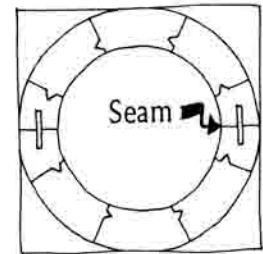

Figure 8-4
3. Caulk the area where the shaft and base meet. Then position halves of shaft on the base so that seams are oriented at a 90-degree angle to the primary view (Fig. 8-4), leaving a gap between them for gluing.